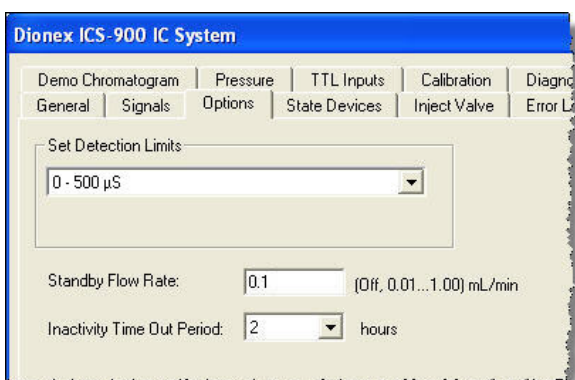

Figure 22. Dionex ICS-900 Properties: Options
- a. On the Dionex ICS-900 Properties dialog box, click **Options** (see Figure 22).